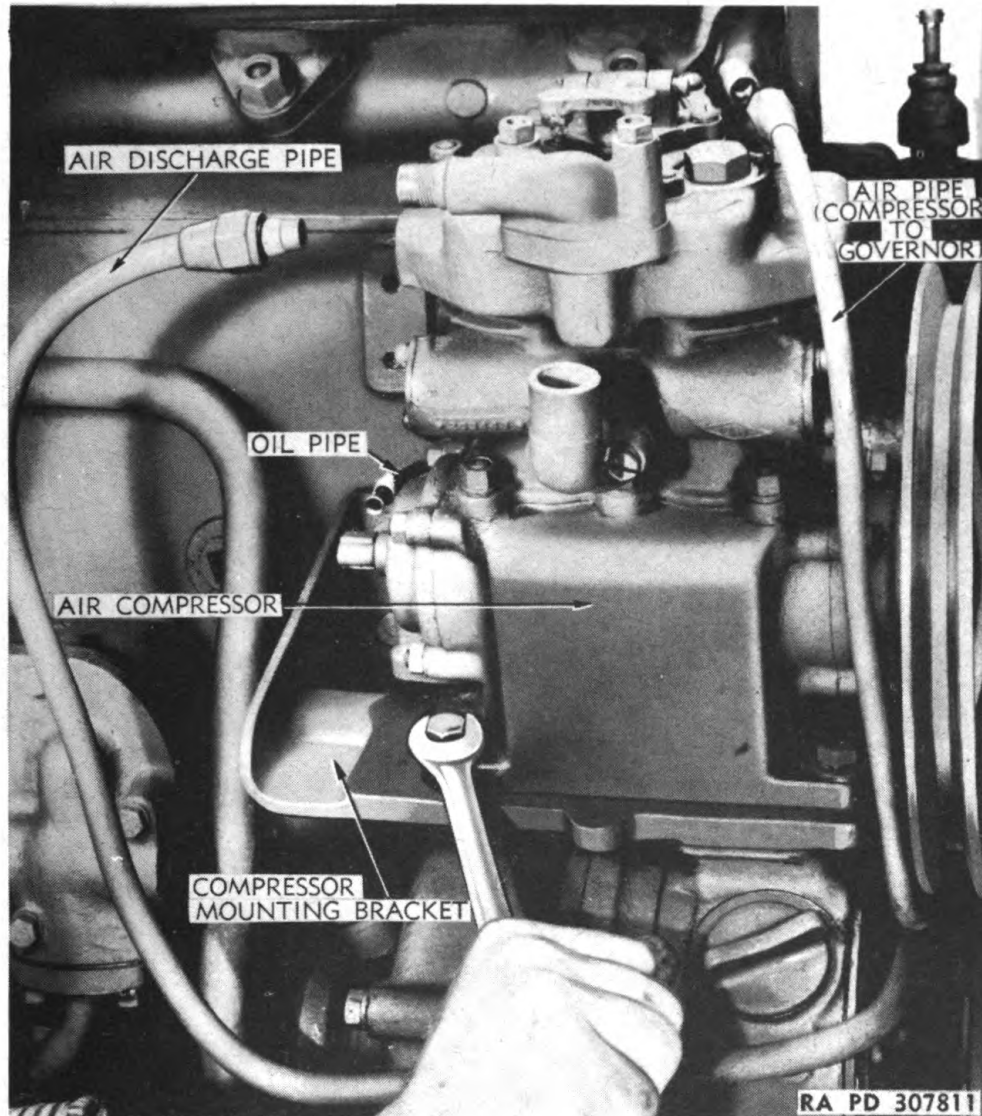

Figure 7 – Removing Air Compressor
e. Remove Air Compressor. Disconnect all air, oil, and water lines from compressor, remove the four cap screws attaching compressor to mounting bracket (fig. 7) and lift off compressor.